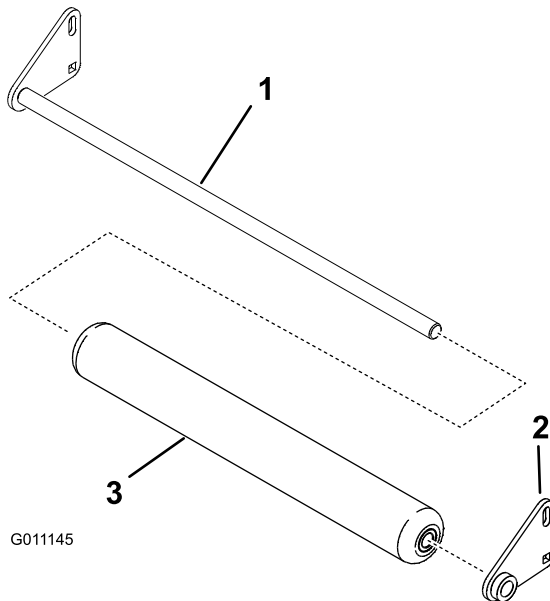

Figure 2
1. Install the roller onto the roller plate with the shaft (Figure 2).
2. Slide the roller plate onto the end of the shaft (Figure 2).